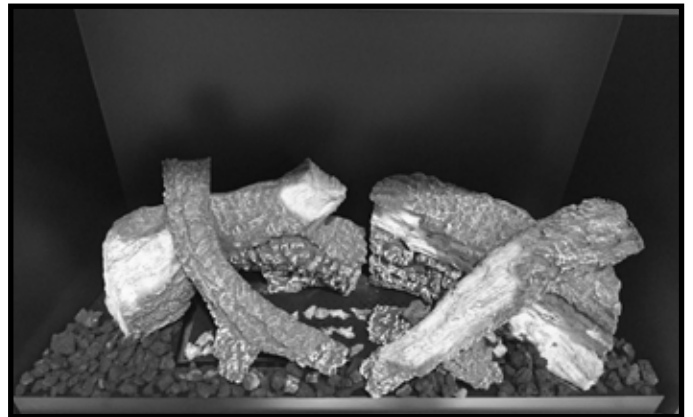

Figure 10. Log Set Complete - Lava Rock Installed
- Install lava rock around the basepan as shown in Figure 10. Do not install lava rock on burner.